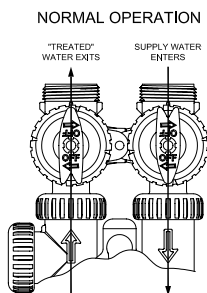

FIGURE 2
- If using optional bypass **SLOWLY** turn bypass valve to **DIAGNOSTIC** position (**figure 2**) or slowly open inlet valve to allow water to slowly enter the softener.